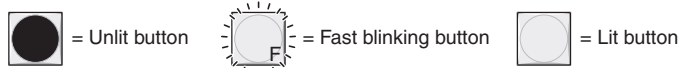

Figure 3-62 — Adjust the output audio volume
4. Press and release the Esc (▲) button once (figure 3-62) to increase the volume by 1.5%.
Press and release the Esc (▲) button several more times (figure 3-62) to increase the volume by 1.5% per button press. Note the input button indication changes that occur each time the Esc (▲) button is pressed and released.